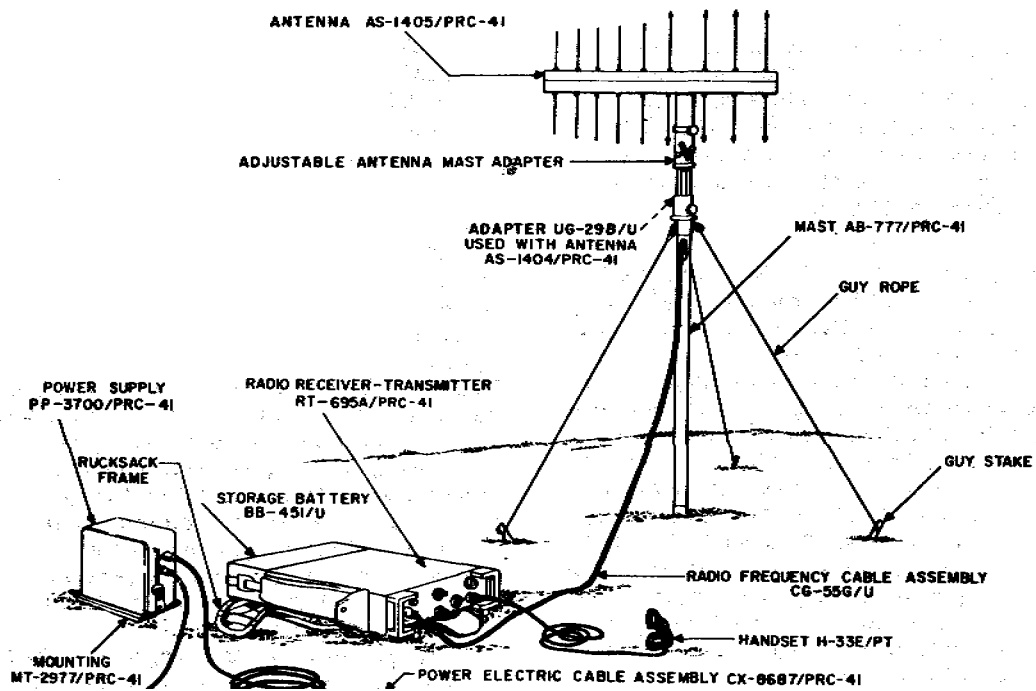

Figure 2-7. Radio Set AN/PRC-41A, Vehicular Installation
c. VEHICULAR OR AIRCRAFT INSTALLATION. (Refer to figure 2-7.)